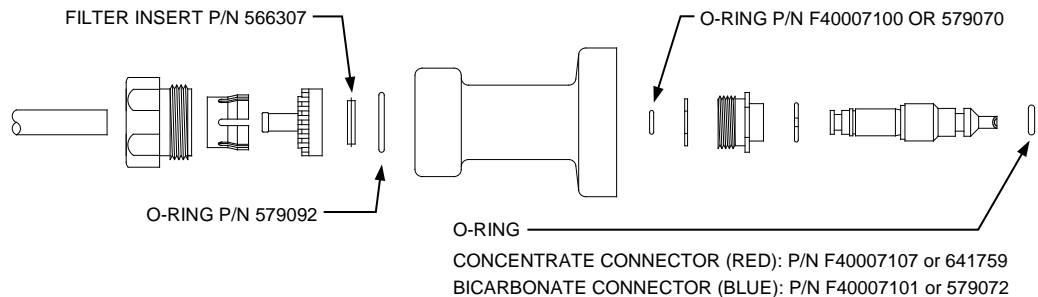

Figure 4. Concentrate and Bicarbonate Connector Assemblies.
2. Filters and O-rings in the Concentrate and Bicarbonate Connectors (See Figure 4). Replace all three O-rings in each connector.